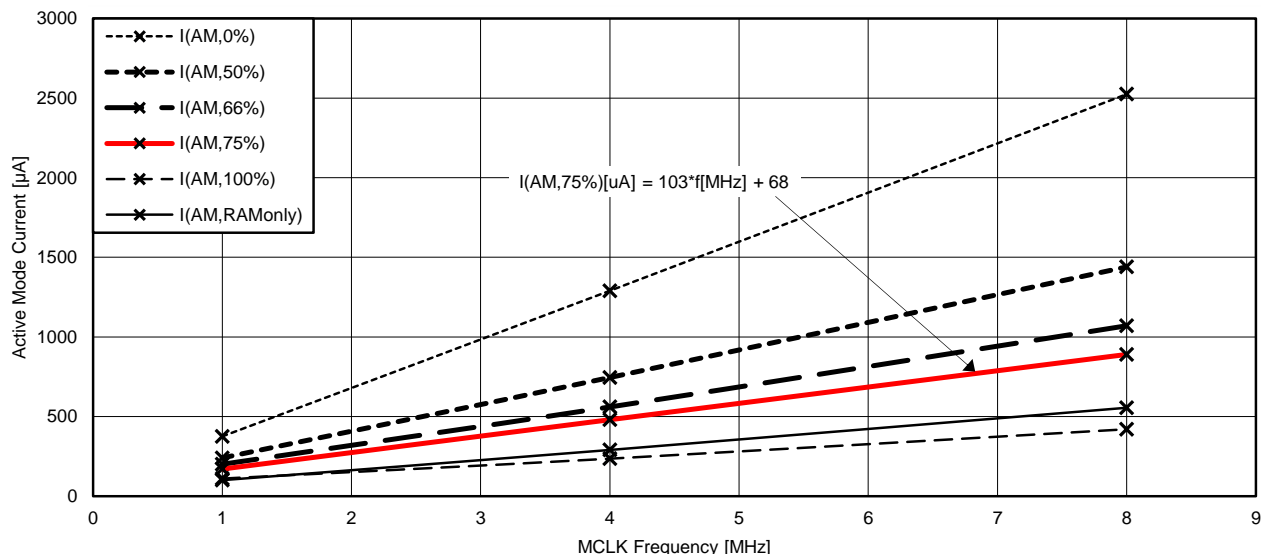

Figure 5-1. Typical Active Mode Supply Currents, No Wait States
(3) Represents typical program execution. Program and data reside entirely in FRAM. All execution is from FRAM.
(4) Program resides in FRAM. Data resides in SRAM. Average current dissipation varies with cache hit-to-miss ratio as specified. Cache hit ratio represents number cache accesses divided by the total number of FRAM accesses. For example, a 75% ratio implies three of every four accesses is from cache, and the remaining are FRAM accesses.
(5) See Figure 5-1 for typical curves. Each characteristic equation shown in the graph is computed using the least squares method for best linear fit using the typical data shown in Section 5.4.
(6) Program and data reside entirely in RAM. All execution is from RAM.
(7) See Figure 5-1 for typical curves. Each characteristic equation shown in the graph is computed using the least squares method for best linear fit using the typical data shown in Section 5.4.
(8) Program and data reside entirely in RAM. All execution is from RAM. FRAM is off.